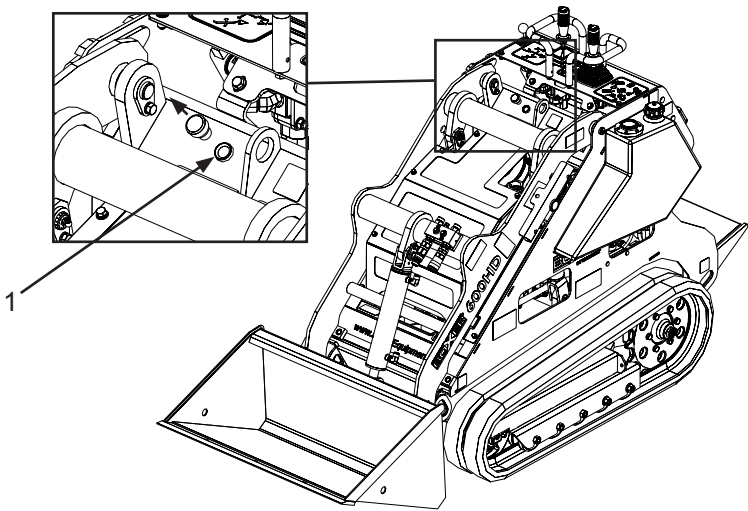

Figure 4-3 Engine Oil Fill Port
- c. If the engine oil level is below the add line, carefully add the proper amount of oil through the engine oil filler (Item 1, **Figure 4-3**) The oil fill port is remotely located adjacent to the boom arm pivot, as shown in figure below . It is important to add the correct type of engine oil as stated in the engine manual.